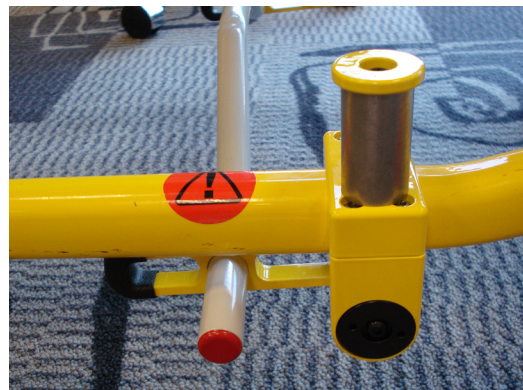

Figure 51.3
2. Operator 2 rolls the cot slightly forward to make sure that the kickstand retracts on its own as shown in Figure 51.3.